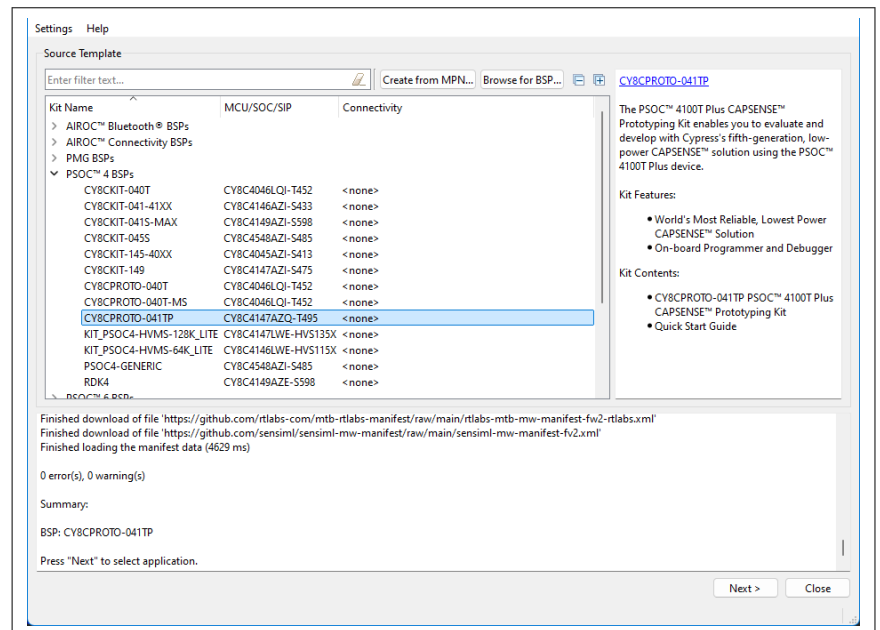

Figure 14 Creating a new application: Choose Board Support Package
2. Select **CY8CPROTO-041TP**, and click **Next**, as shown in Figure 14